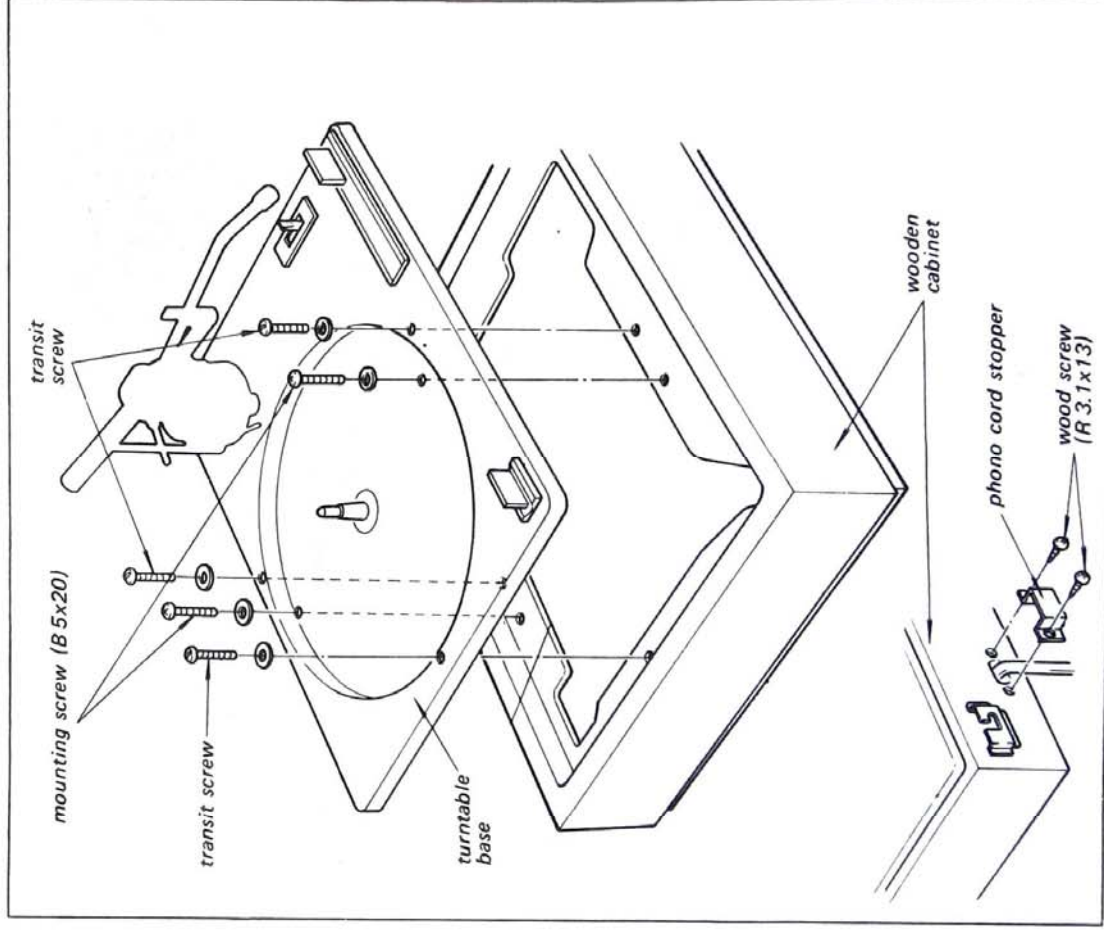

Fig. 2-3. Turntable base removal
4. Remove the three transit screws and the two mounting screws shown in Fig. 2-3.
5. Remove the phono cord stopper by removing the two wood screws as shown in Fig. 2-3. This frees the phono cord.